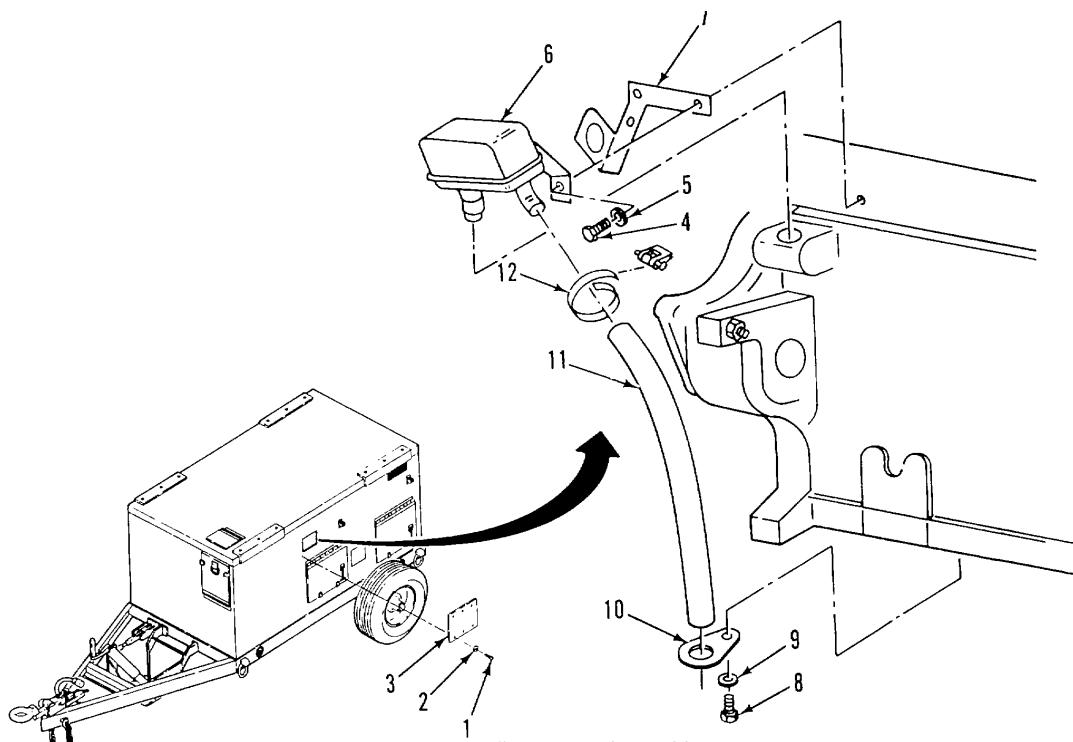

Figure 2-35. Oil Breather Assembly
a. **REMOVE.** (Figure 2-35)
- (1) Remove capscrews (1), flat washers (2), and muffler access plate (3).
- (2) Remove mounting bolt (4), and flat washer (5), oil breather assembly (6), and bracket (7).
- (3) Remove bolt (8), flat washer (9), and hose retaining bracket (10) from hose (11).
- (4) If necessary, remove hose clamp (12). Remove hose (13) from oil breather assembly (6).